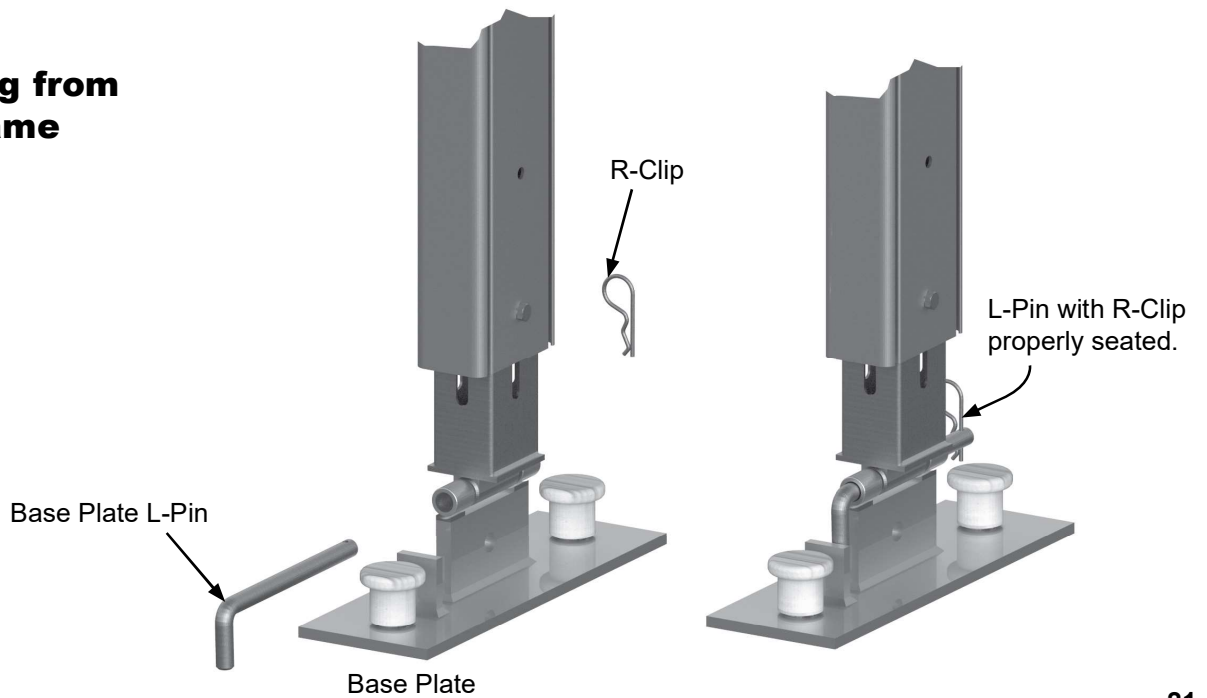

Figure 3.5d
3.5.4 After the G.E. Uprights are connected to the arches, swing the G.E. Upright out from either side of vertical and insert the G.E. Base Plate into the bottom of the G.E. Upright. Swing the upright back to vertical. Adjust the G.E. Base Plate in or out to suit the adjoining grade and pin using the G.E. Base Plate L-Pin and R-Clip. See **Figure 3.5d. IMPORTANT:** Do not stake at this time.
3.5.6 Install the gable end eave purlins by starting with the G.E. Wing Eave Purlins. Place the hooked end over the bolt installed in step 3.5.5 and drop into place. See **Figure 3.5c.** Swing the opposite end with the adjustable eave hook up until the hook is above the bracket on the G.E. Upright, align and drop into place. See **Figure 3.5d.** Using the purlin fork to pivot the eave purlin into place will allow the installer to work from the ground.
3.5.7 Install the remaining gable end eave purlins between the G.E. uprights by first connecting the curved hook into the G.E. upright bracket then swing the opposite end with the adjustable eave hook up until the hook is above the bracket on the G.E. Upright, align and drop into place. See **Figure 3.5d.** Using the purlin fork to pivot the eave purlin into place will allow the installer to work from the ground.